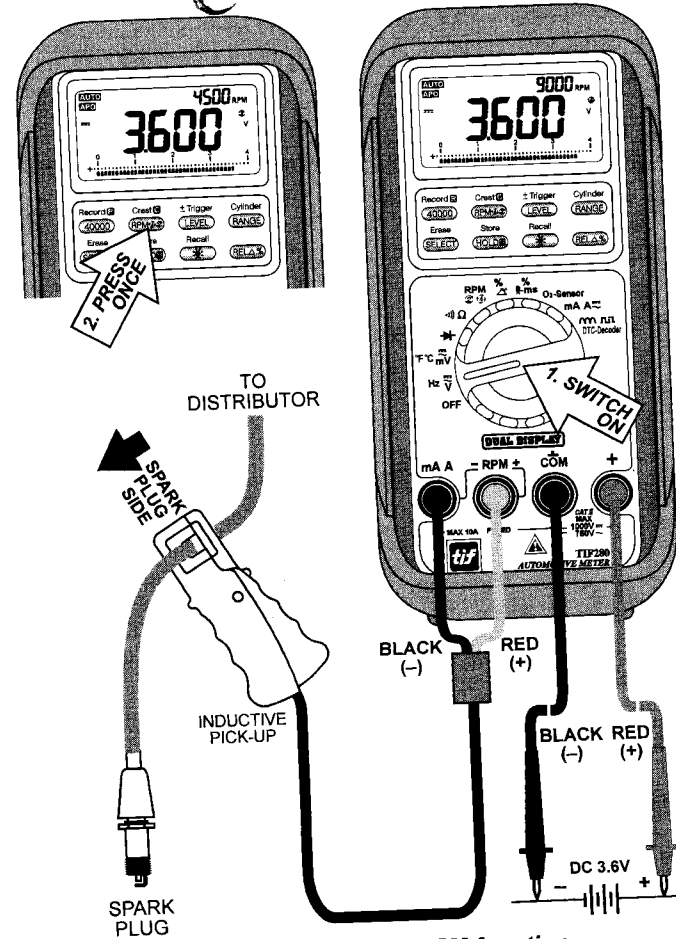

FIG 4. Dual Display RPM function
- 4) Clamp the inductive pick up to a spark plug wire with the arrow sign facing the spark plug. See **FIG 4**. Make sure that the pick up jaws are completely closed